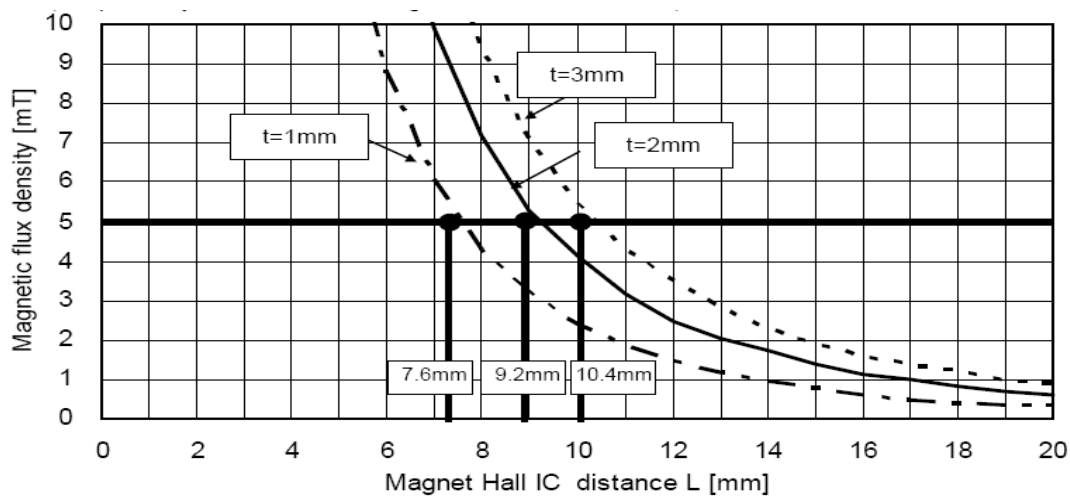
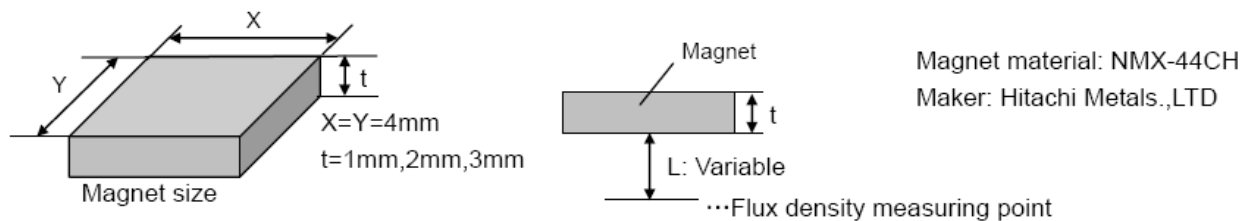

Figure 8. Magnet Hall IC Distance
Figure 9. Magnet Dimensions and Flux Density Measuring Point
Of the two representative varieties of permanent magnet, neodymium generally offers greater magnetic power per volume than ferrite, thereby enabling the highest degree of miniaturization. Thus, neodymium is best suited for small equipment applications. Figure 8 shows the relation between the size (volume) of a neodymium magnet and magnetic flux density. The graph plots the correlation between the distance (L) from three versions of a 4mm X 4mm cross-section neodymium magnet (1mm, 2mm, and 3mm thick) and magnetic flux density. Figure 9 shows Hall IC detection distance – a good guide for determining the proper size and detection distance of the magnet. Based on the operating point max 5.0 mT, the minimum detection distance for the 1mm, 2mm and 3mm magnets would be 7.6mm, 9.22mm, and 10.4mm, respectively. To increase the magnet’s detection distance, either increase its thickness or sectional area.